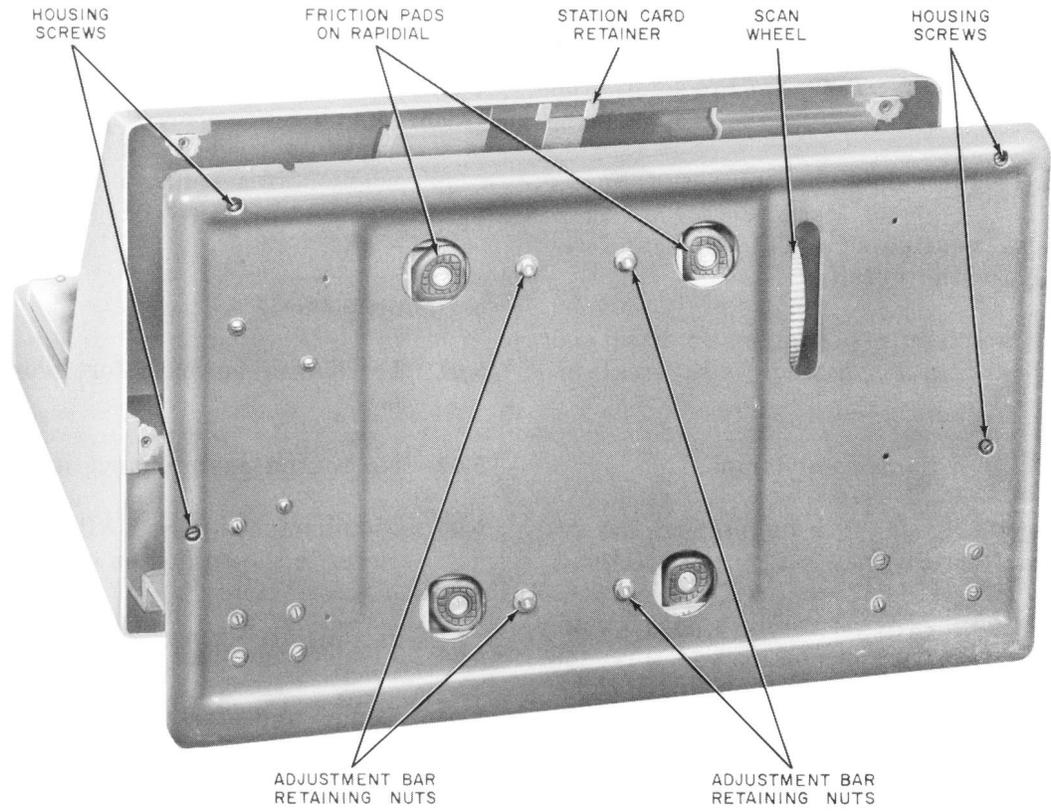

Fig. 4 — Bottom View of Set and Housing
2.05 Fig. 4 is a bottom view of the base and housing.
1. Remove housing of F-56105-() by loosening four housing screws (Fig. 4) and remove packing detail.
17. Place housing over base and secure with housing screws shown in Fig. 4.
21. Place number card bracket on front edge of faceplate opening so that it lines up with slot in faceplate. See Fig. 4.